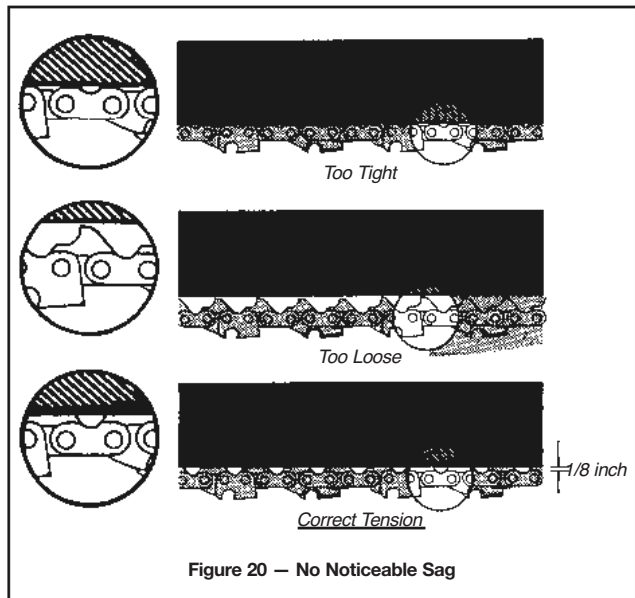

Figure 20 – No Noticeable Sag
- In general, the chain should move easily around the bar by hand without showing noticeable sag at the bottom (Figure 20).